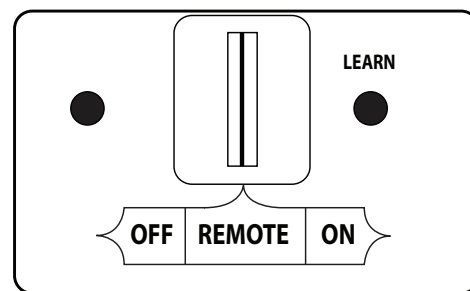
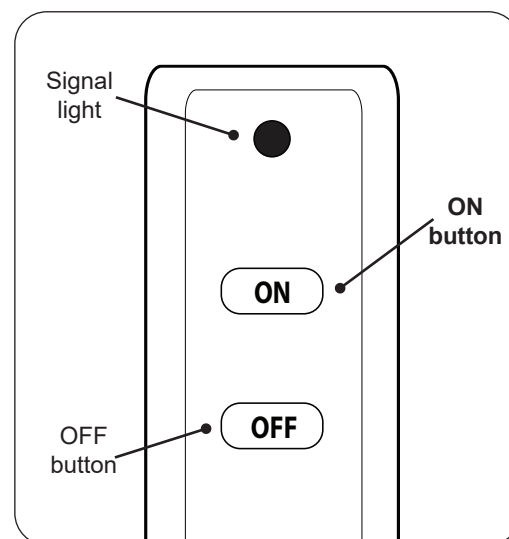

Fig. 11-1 Remote receiver detail (REMOTE)
Fig. 11-2 Remote transmitter detail
1. Locate the 3-position switch on the remote receiver (see Fig. 11-1), and slide the switch to the **REMOTE** position.
**Note:** For Switch Box Models, ensure that the ON/OFF switch at the front of the switch box is in the **OFF (O)** position.
2. Locate the remote transmitter and press the **ON** button (see Fig. 11-2). The ignition sequence will begin.